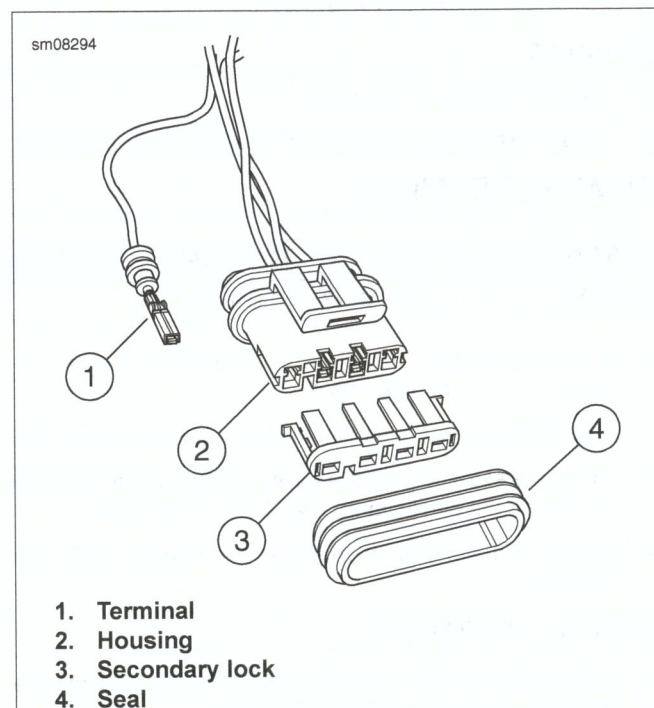

Figure A-35. Tyco Super Seal 1.5 Sealed Connector
2. **Male connector:** See Figure A-35. Remove seal (4) from connector housing (2).
3. Lift locking tab on either side of housing and remove secondary lock (3) from connector housing (2).
4. See Figure A-35. Insert the extractor into the cavity next to the terminal. Press the plastic tang away from the terminal.
5. Gently pull the wire to remove the terminal from the connector housing (2).
3. See Figure A-35. Install secondary lock (4) into connector housing (2).
4. **Male connector:** Install seal (4).